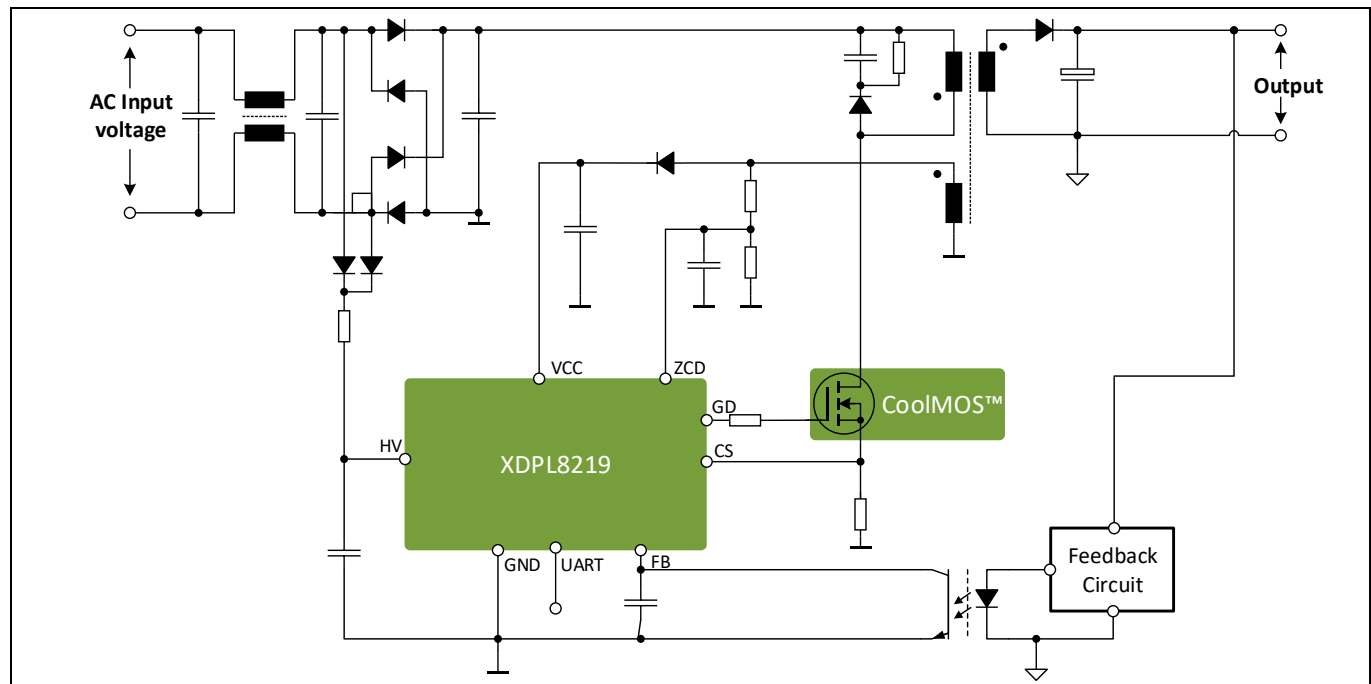
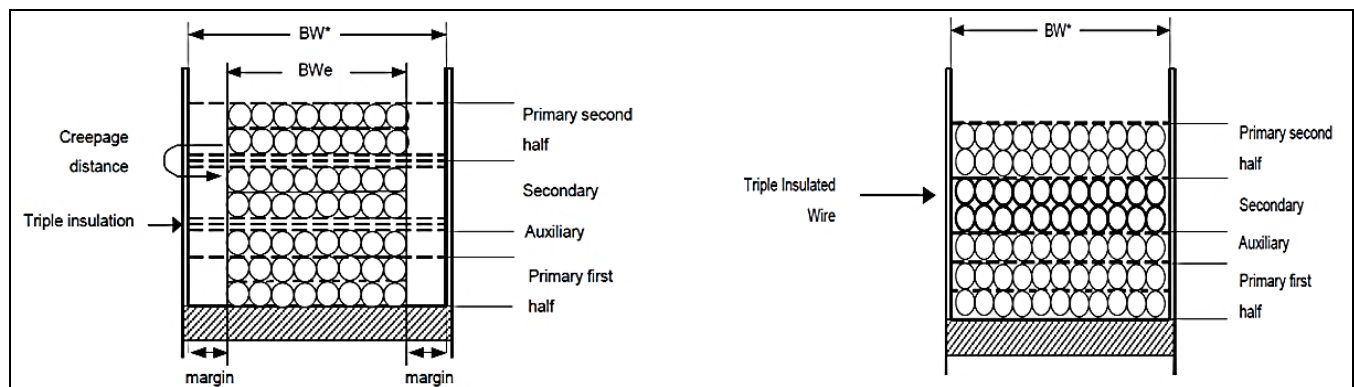

Figure 1 XDPL8219 flyback converter simplified circuitry with secondary-side regulated CV output
Figure 3 Transformer design with sandwich construction
XDPL8219 regulates the constant voltage (CV) output of a high power factor (HPF) flyback, according to its feedback (FB) pin voltage signal, which is controlled by the secondary side regulation (SSR) feedback circuit via an isolated optocoupler, as shown in Figure 1.
To reduce transformer leakage inductance for low MOSFET voltage spike $V_{spike,FET}$, transformer design with sandwich construction as shown in **Figure 3** is recommended. Additionally, with the primary RCD snubber network deployed across the primary main winding (see **Figure 1**), $V_{spike,FET}$ can be estimated to be around 30 percent to 45 percent of $V_{AC,max}$ as a rule of thumb. In this design example, $V_{AC,max}$ is $305 V_{rms}$, so we simply **assume $V_{spike,FET} = 100 V$** , which is approximately 33 percent of $V_{AC,max}$.